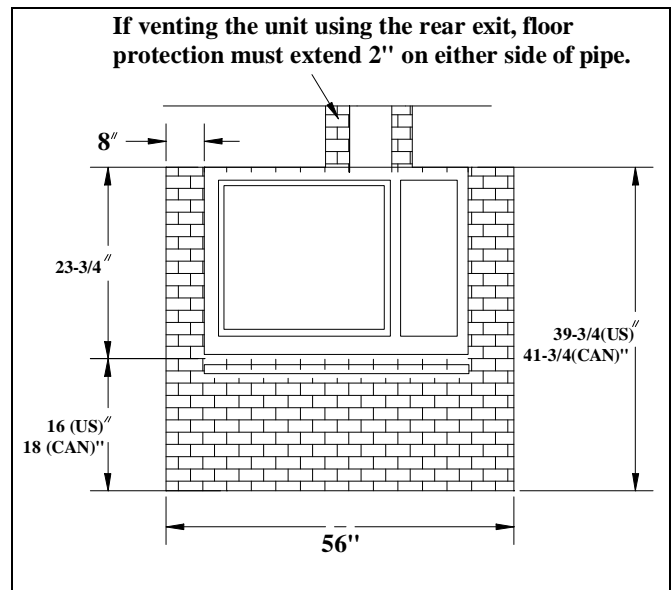

Figure 1 - Hearth Protection for top vent installations
- 🔥 A non-combustible floor protector that you obtain from your dealer, or any other noncombustible material (metal, glass, stone, tile, etc.). A floor protector is any noncombustible surface laid on the floor underneath the stove that extends, 16 inches - US (or 46 cm in Canada) beyond the fuel loading door and 8 inches (20 cm) beyond each side of the cook stove. (See Figure 1) The hearth protection for your Deva 100 must have an R-value of at least 0.89 or be a UL Listed floor protection.